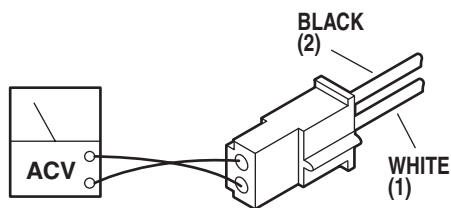

Figure 7-3. Connector CN15 Test
3. Use an AC voltmeter capable of measuring 120 VAC and measure the voltage between pins 1 and 2 (black and white wires) located in connector CN15. See figure 7-3. You should receive line voltage 120 VAC.